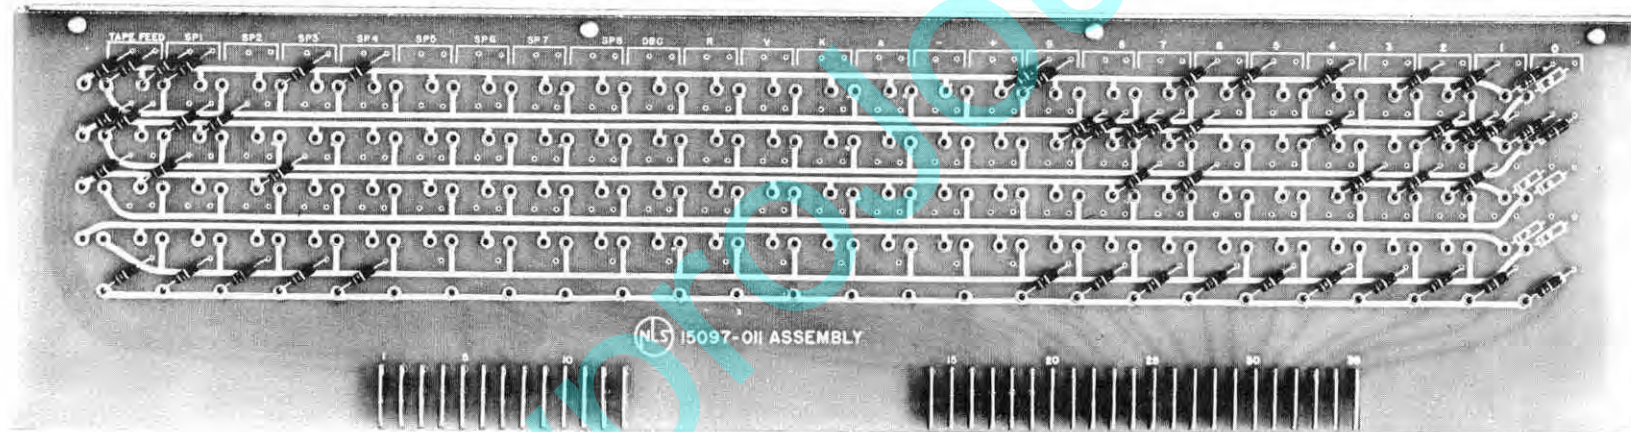

FIGURE 9
1. Renumber tape columns from the guiding edge as shown above to agree with the locations on the code matrix board. Assign SP1, SP2, SP3, and SP4 codes to Figures Shift, Space, Tab, and Carriage Return respectively. Install diodes on code matrix board as shown in Figure 9.